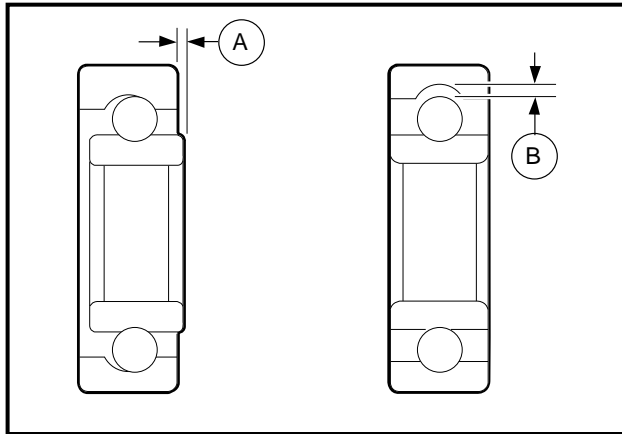

Figure 12-9 Bearing Play Inspection
1. Using a clean cloth, wipe the carbon dust from the two bearings. Inspect bearings by spinning them by hand and checking for both axial (A) and radial (B) play (**Figure 12-9, Page 12-7**).